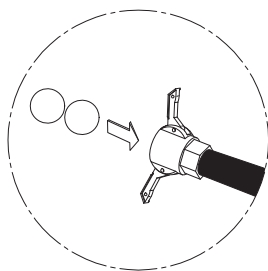

Fig. 13
- Insert two washing sponges in the pipes still full of material and refit the the piping on the manifold (Fig. 13).